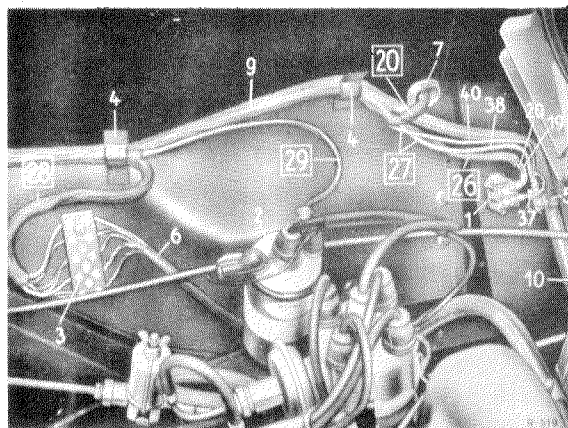

Fig. 54 — 1/2
10. Disconnect Cable Sheaf 26 with Leads Nos. 19 and 20 and Ground Lead No. 37 from Cable Sheaf 27 at cable connector (1) for the heater blower, left.
Disconnect Cable Sheaf 27 with Ground Leads Nos. 37, 38 and 40 at clip (5) and remove the clip (5) (Fig. 54—1/2).
12. Disconnect Cable Sheaf **29** with Lead No. 21 at the ignition coil (4) (see Fig. 54 — 1/2).
13. Disconnect Cable Sheaf **23** with Leads Nos. 2, 12, 13, 14, 22, 23 and 40 at cable connector (3) for steering tube cable harness (6) (see Fig. 54 — 1/2).
17. Disconnect Cable Sheaf **31** with Ground Leads Nos. 31, 32, 30, 28, 41 and 39 at the fixing clip (1) at the cowling. Remove the fixing clip (1) (Fig. 54 — 1/3).